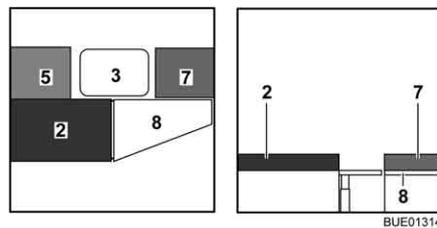

Fig. 134 During conversion
- Hook the bed widening (Fig. 134,8) into the recesses on the bench seats.